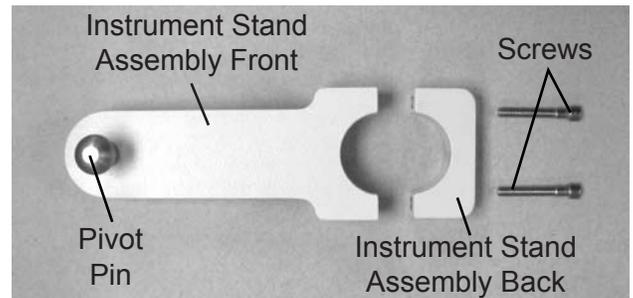

Figure IS-10 Instrument Stand Assembly - Apart
1. Unscrew the two Screws at the rear of the Instrument Stand so that the two halves are separate. Refer to Figure IS-10.